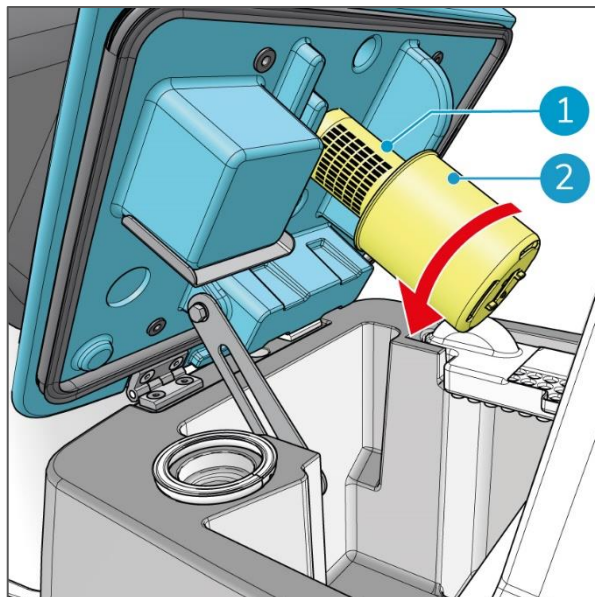

Figure 48
1. Turn the yellow cup (Figure 48, pos 2) from the separator (Figure 48, pos 1) anti clockwise to remove it.